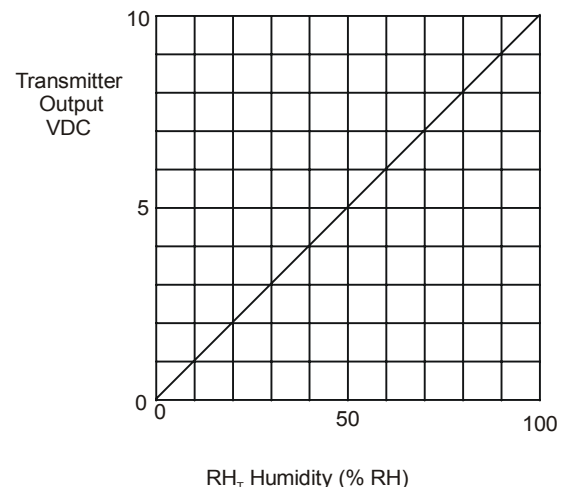

Figure 12: Transmitter Voltage vs. Humidity
- c. Connect a DC voltmeter between the transmitter OUT wire and the control C terminal. Using Figure 12, convert the voltage to % RH. This is the humidity reading at the transmitter (RH_T).
Note: A transmitter output of 0-10 VDC should correspond to a humidity of 0-100% RH (see Figure 12).